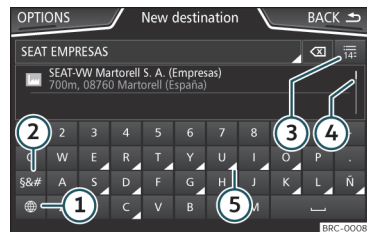

Fig. 131 Input window with on-screen keypad.
Matches are suggested on the input line >>> **Fig. 131** (4). In the case of compound names, it is necessary to enter a space.